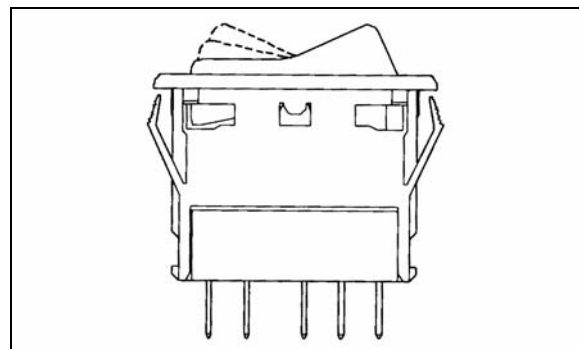

FIGURE 49: SWITCH
3. To install a new switch, reverse the procedure (Fig. 49).